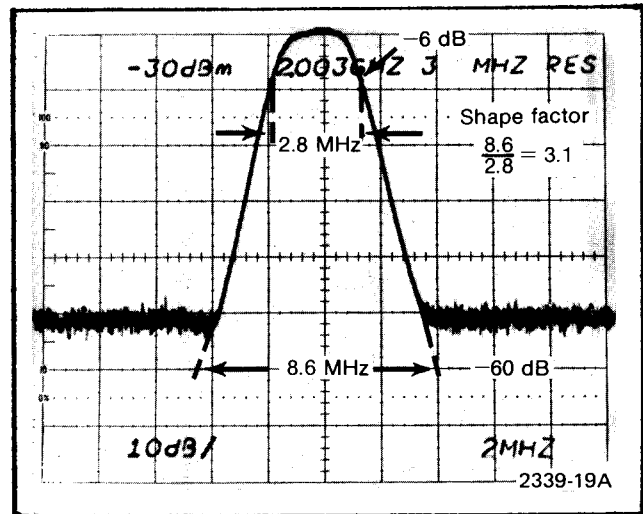

Fig. 4-5. Display Mode 10 dB/DIV.
e. Estimate the  $-60$  dB bandwidth by extending the slope of the response down through the noise level to the  $-60$  dB graticule line. Calculate the shape factor (see Fig. 4-5). Shape factor must equal 4:1 or less.